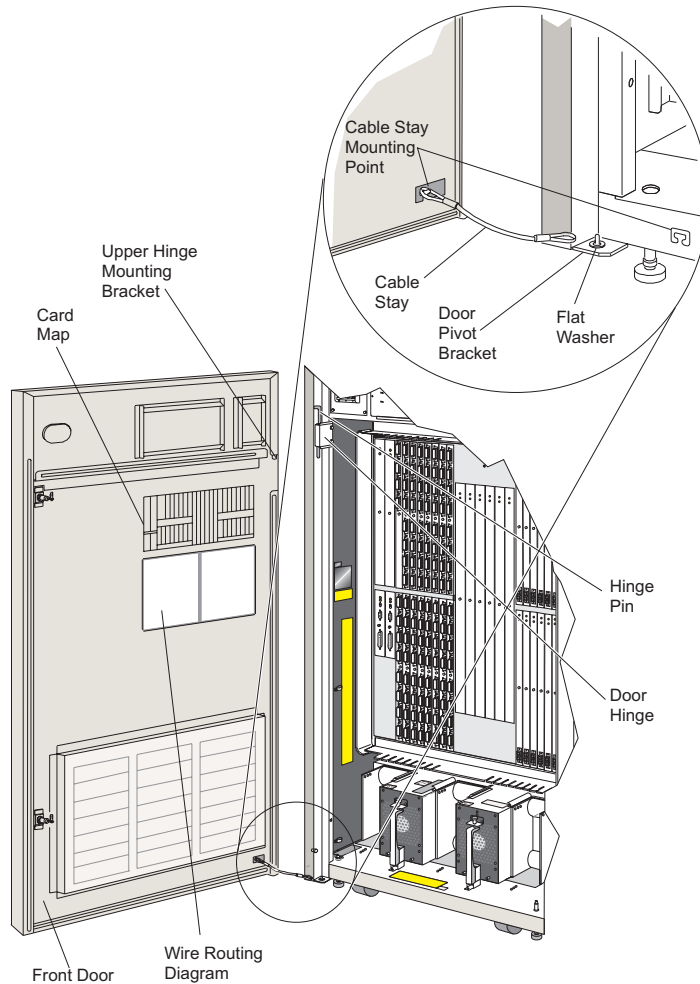

Figure 3-7. Front Door
Use the following procedure to remove either a front or a rear door. Refer to Figure 3-7.
4. Attach the cable stay to the cable stay mounting point (refer to Figure 3-7).